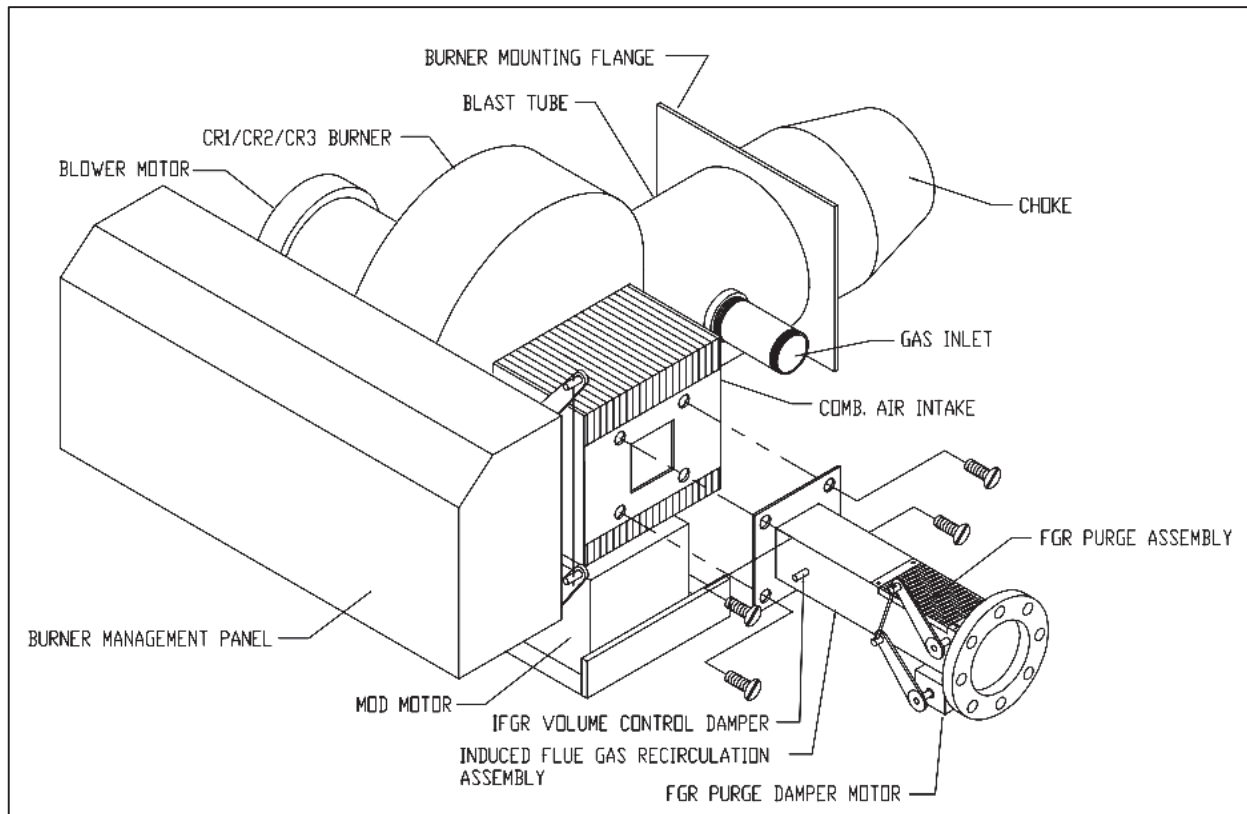

Figure 1: Nova IFGR Combustion System adapter arrangement
The NOVA IFGR System consists of three basic components (as depicted in Figure 1):
Please note that the arrangement shown in Figure 1 is typical of all LNIC(R), LNIAC(R), LNIJ(R), and LNICM(R) burners. The Figure does not show the proprietary Varicam® metering system which can be purchased as an option for more precise control of fuel, air and IFGR ratios.